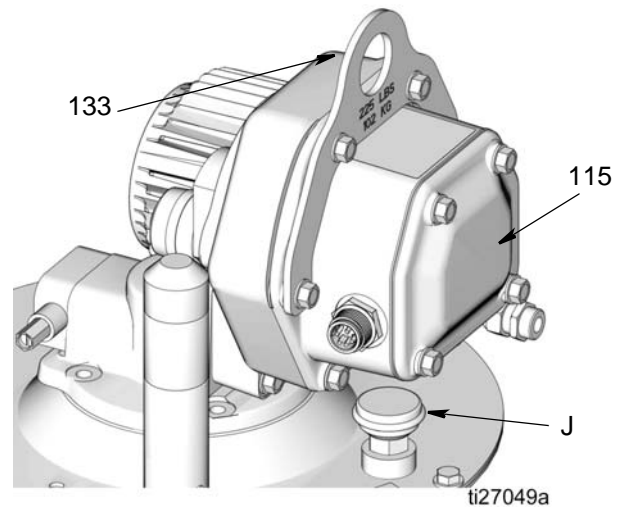

FIG. 9
NOTE: When the pump is correctly installed on the Graco tank, the breather (J) will be below the control box (115) as shown in FIG. 9.